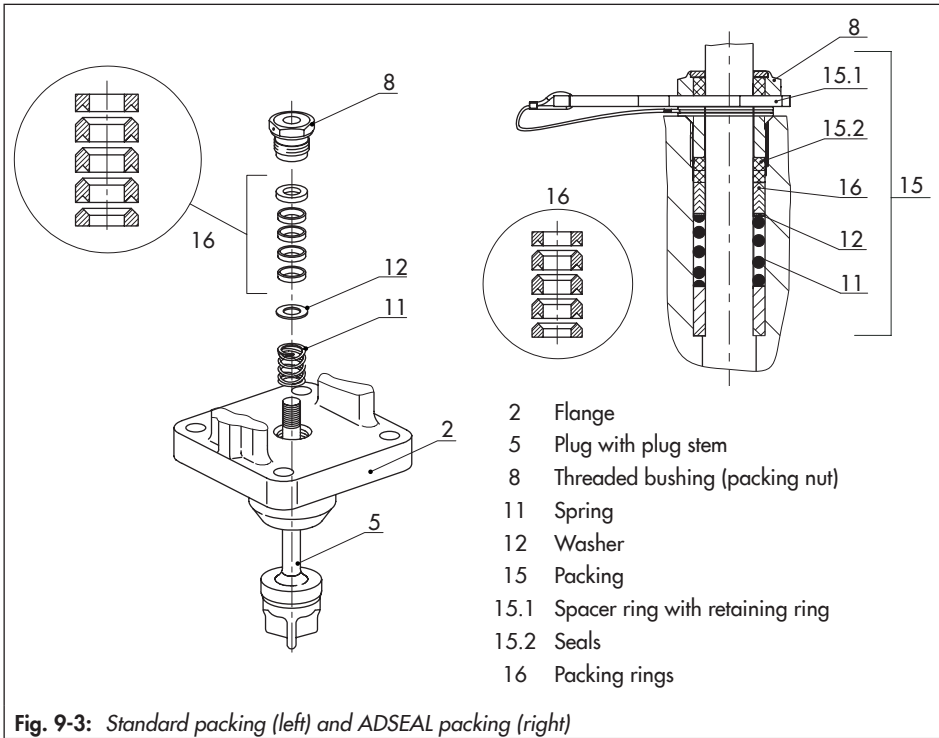

Fig. 9-3: Standard packing (left) and ADSEAL packing (right)
9. Carefully slide the packing parts over the plug stem into the packing chamber using a suitable tool. Observe the proper sequence (see Fig. 9-3).
10. **Mixing valve <DN 32:** Firmly press the plug (5) into the bottom seat (141).
- Spring (11)
- Shim (12)
- Packing rings (16)
4. Insert the red spacer ring (15.1) between the threaded bushing (8) and retaining ring. See Fig. 9-3.
9. Carefully slide the packing parts over the plug stem extension into the packing chamber using a suitable tool. Observe the proper sequence (see Fig. 9-3).
10. Fasten the flange with nuts (33) and bolts (32). Observe tightening torques.
11. Screw in the threaded bushing (8) and tighten it. Observe tightening torques.
12. Loosely screw the lock nut (10) and stem connector nut (9) onto the plug stem.